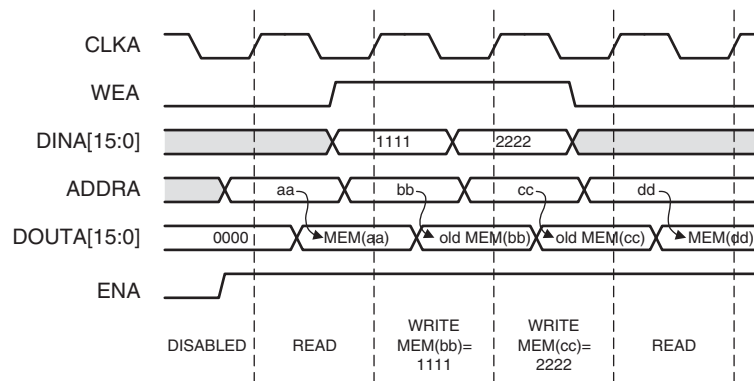

Figure 3-10: Read First Mode Example
- **Read First Mode:** In READ_FIRST mode, data previously stored at the Write address appears on the data output, while the input data is being stored in memory. This Read-before-Write behavior is illustrated in Figure 3-10.